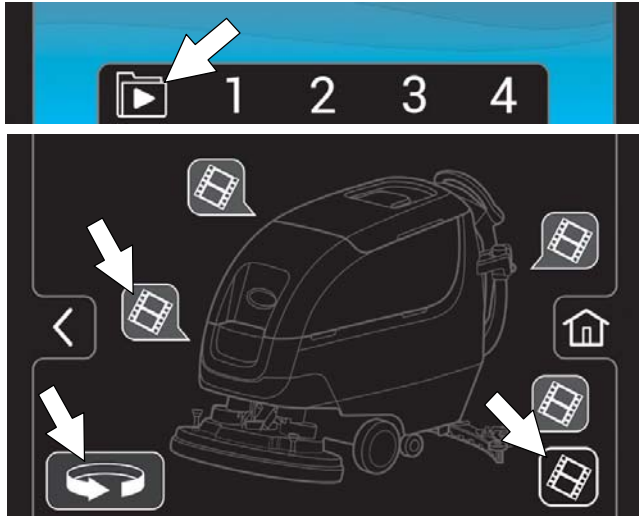

FIG. 63
Press the video tutorial button to access the video tutorial screen (Figure 63). It includes videos on how to perform specific operation and maintenance procedures. Press the video buttons to start video. Press the rotate button for additional videos. The lower right video button provides a list of additional tutorial videos.
**Video help** - Use to view specific operation and maintenance procedures. See Figure 63.